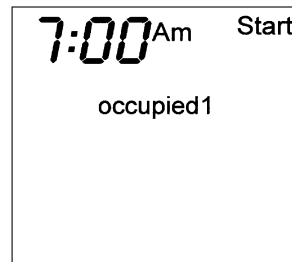

Fig. 9 — Start Time Display
7. The Start Time for Occupied 1 for the chosen day will be displayed. Use the UP ARROW and DOWN ARROW buttons to raise or lower the time until the desired Start Time is shown. Press the Mode button to continue. See Fig. 9.